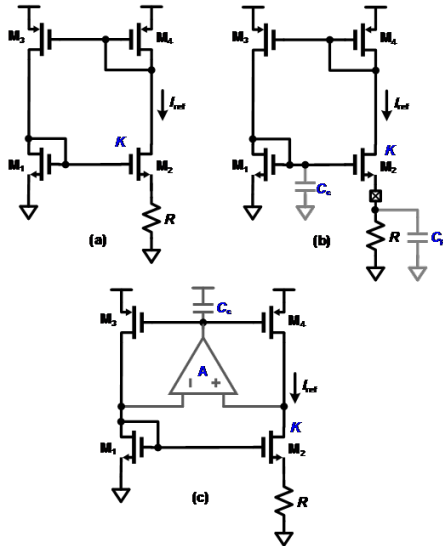

Figure 4
- Design and simulate a constant- $g_m$  bias circuit shown in Figure 4 (a), along with a start-up circuit. Plot the currents in the BMR when  $V_{DD}$  is swept. Comment on the supply sensitivity of the circuit.
- In practice, on-chip resistance varies by  $\pm 20\%$  and thus an external precision resistance may be used for setting the bias current as shown in Figure 4 (b). However, the bond-pad introduces a parasitic capacitance (say  $C_p = 200 \text{ fF}$ ). This necessitates a compensation capacitance  $C_c$  to stabilize the circuit. Modify your circuit from part (a) by including the bond-pad parasitic cap and stabilize the circuit.
- Repeat part (a), by using an ideal amplifier model to regulate the drain voltages of the bottom NMOS devices as shown in Figure 4 (c). Note that, later on when using transistor-level amplifier, the loop will need to be compensated.